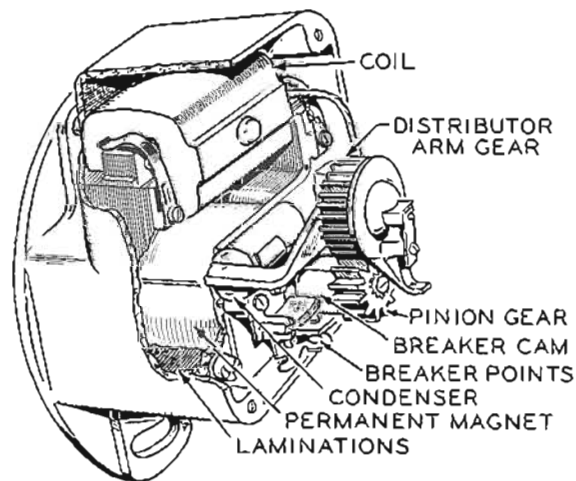

Figure A-14. Cutaway View Of Impulse Magneto
b. Gear Driven Magneto (Fig A-14).